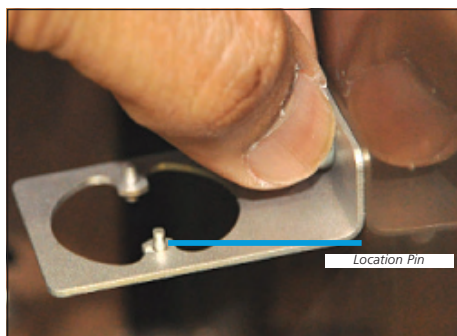

Figure 3. Attaching the mounting bracket.
- iii. Secure the bracket against oven wall and align the screw to the fitting and into the wall (Figure 3).